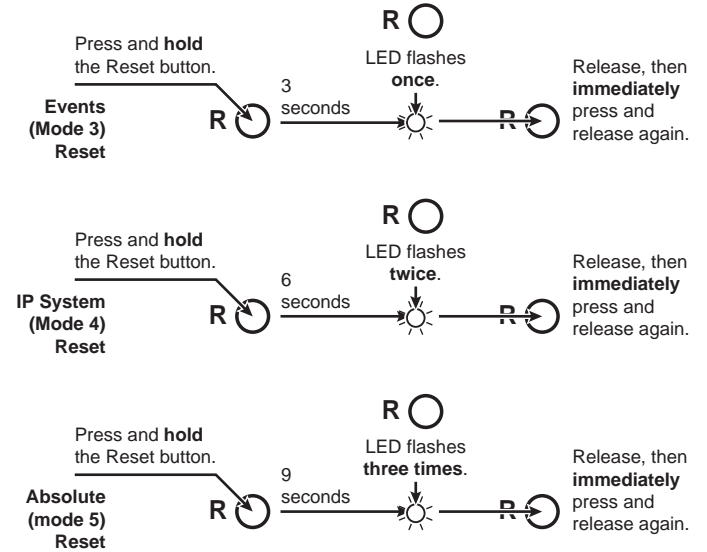

Figure 3-4 — Soft resets
1. Press and **hold** the Reset (R) button until the Reset LED blinks off once (events reset), twice (IP system reset), or three times (absolute reset) (figure 3-4).